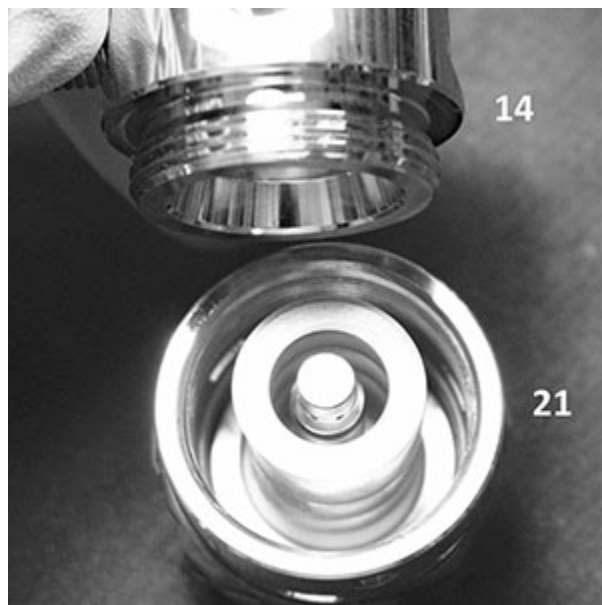

Fig. 29
7. With the Lower Body and Piston assembly held firmly on a flat surface, screw the Upper Body (14) onto the assembly - Fig 29.